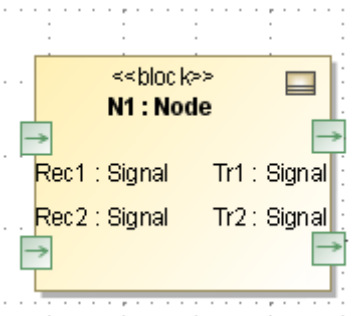

Figure 5.2 Node with Ports
- i. Each node has four flowports, two for receiving message traffic and two for transmitting (see Figure 5.2). To create a flowport